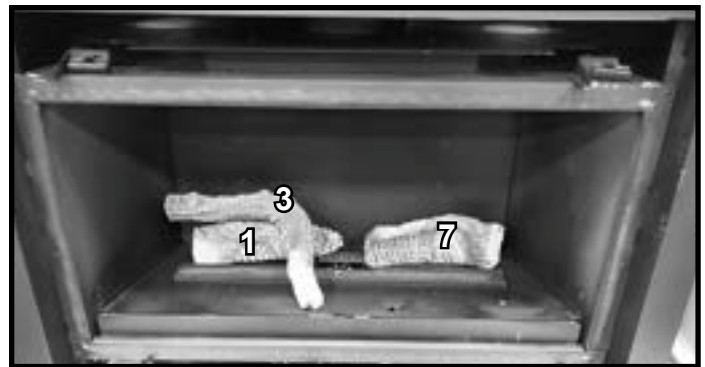

Figure 19. Place Log #3
11. Install Log #3 by resting it on top of Log #1. Log #3 will cross the burner. The tab near the front of the base-pan will rest in the notch in the front tip of the log. See Figure 19.